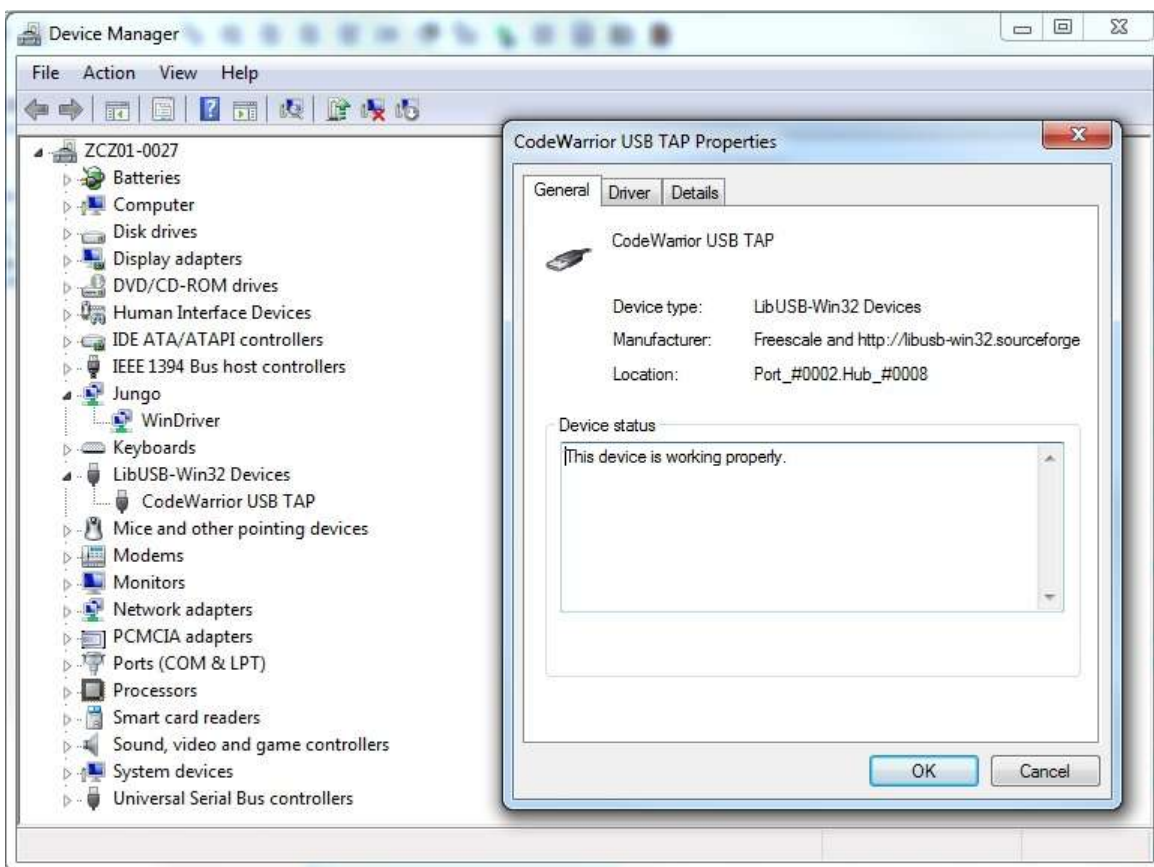

Figure 5. The CodeWarrior USB driver, as recognized by Windows 7.
11. Check to see if the computer recognizes the USB TAP. Open the Device Manager. CodeWarrior USB TAP must appear under LibUSB-Win32 Devices as shown in Figure 5.